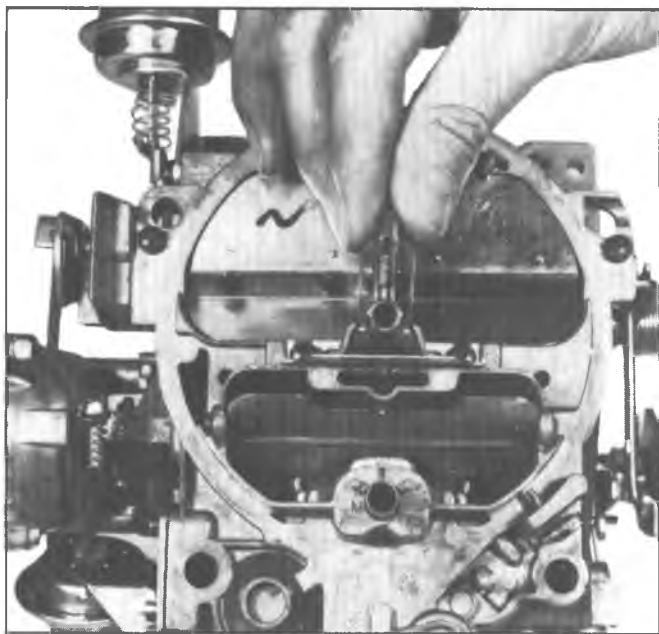

Fig. 3MQ—Removing Secondary Metering Rods
3. Remove secondary metering rods by removing the small screw in the top of the metering rod hanger. Lift upward on metering rod hanger until the secondary metering rods are completely out of the air horn. Metering rods may be disassembled from the hanger by rotating ends out of the holes in the end of the hanger. (Fig. 3MQ).